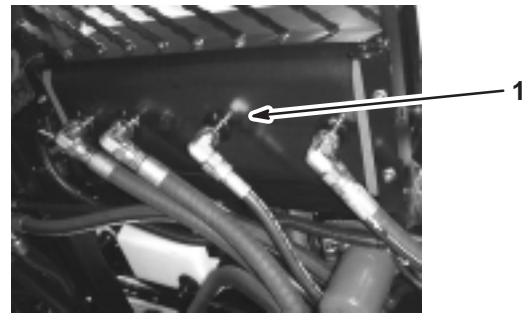

Figure 40
2. Clean the area around one hydraulic hose fitting on the bottom of the hydraulic oil tank (Fig. 40).
4. Remove the hose fitting from the tank, allowing the oil to drain into the pan (Fig. 40).